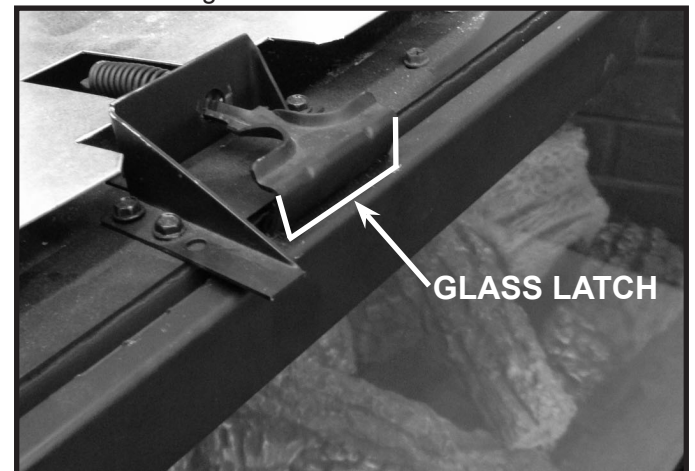
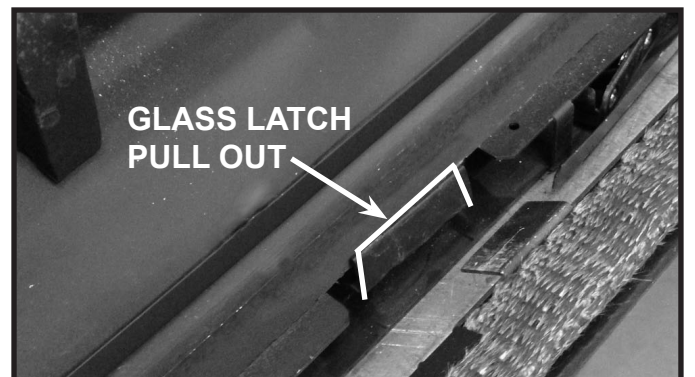

Figure 4.1 Top Glass Latch
Figure 4.2 Bottom Glass Latch
- The glass assembly fastens to the fireplace in four places. The fastening mechanisms are spring-loaded glass latches. An example of the top glass latch is shown in Figure 4.1 and an example of the bottom glass latch is shown in Figure 4.2.